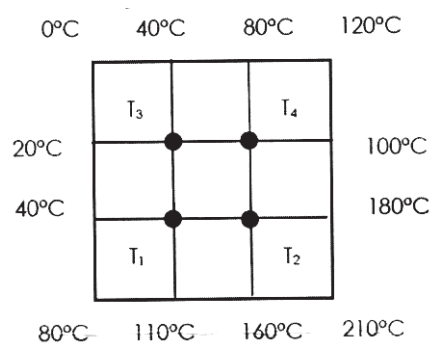

Figure Q7b
b) Using the Laplace equation $\frac{\partial^2 T}{\partial x^2} + \frac{\partial^2 T}{\partial y^2} = 0$ with respect to the grid and boundary conditions as shown in Figure Q7b, calculate temperatures T_1, T_2, T_3, T_4 . **[10]**